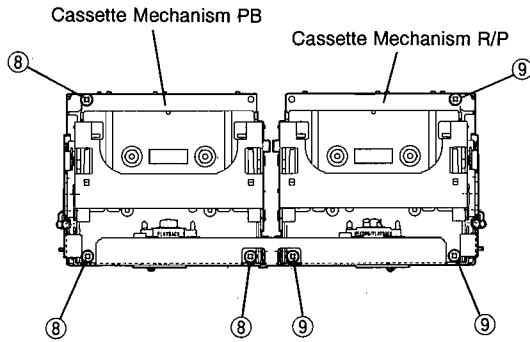

Fig. 3
- a. Remove 3 screws (8) and then remove the Cassette Mechanism PB in Fig. 3.
- b. Remove 3 screws (9) and then remove the Cassette Mechanism R/P in Fig. 3.